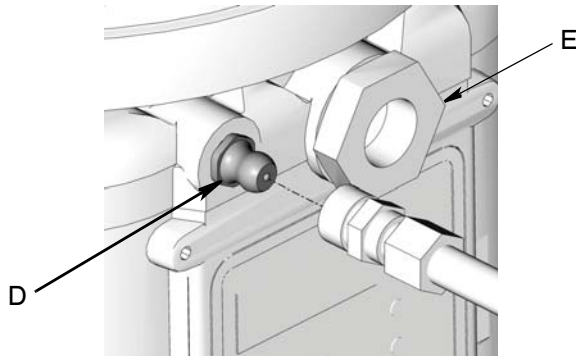

FIG. 16
1. Connect fill hose to inlet fitting (FIG. 16).